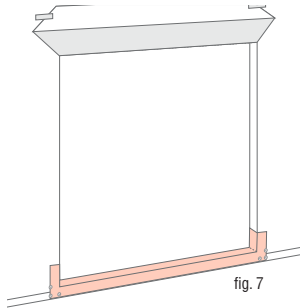

fig. 7
- Fold down on to the face of the exterior wall. Tape, staple or nail to keep the corners in place. (**fig. 7**)